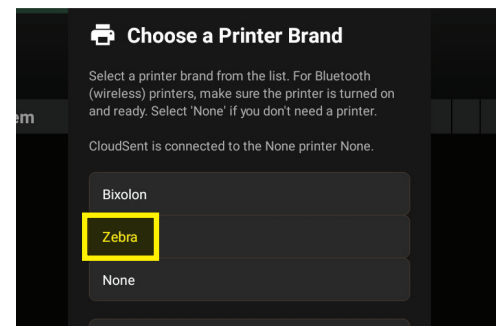

Figure 34
5. In the pop-up dialog, select Zebra as the printer type (Figure 34).